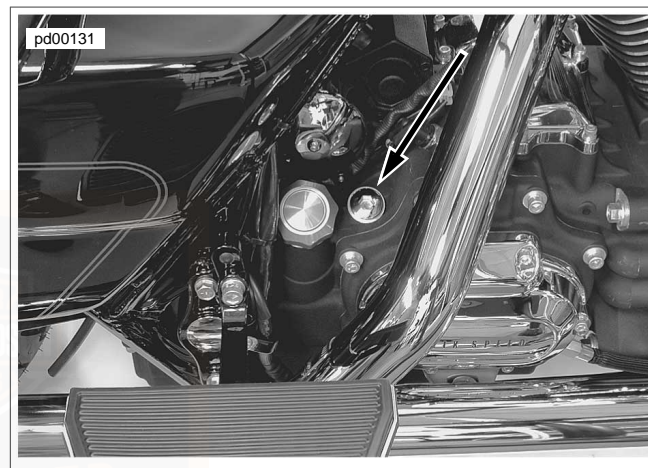

Figure 52. Transmission Filler Plug/Dipstick Location
3. See Figure 52. Wipe off filler plug/dipstick. Place in filler hole and remove. (Dipstick should rest on lip of filler. Do not screw in.) Lubricant level should be between the full and low marks on the plug/dipstick when removed.